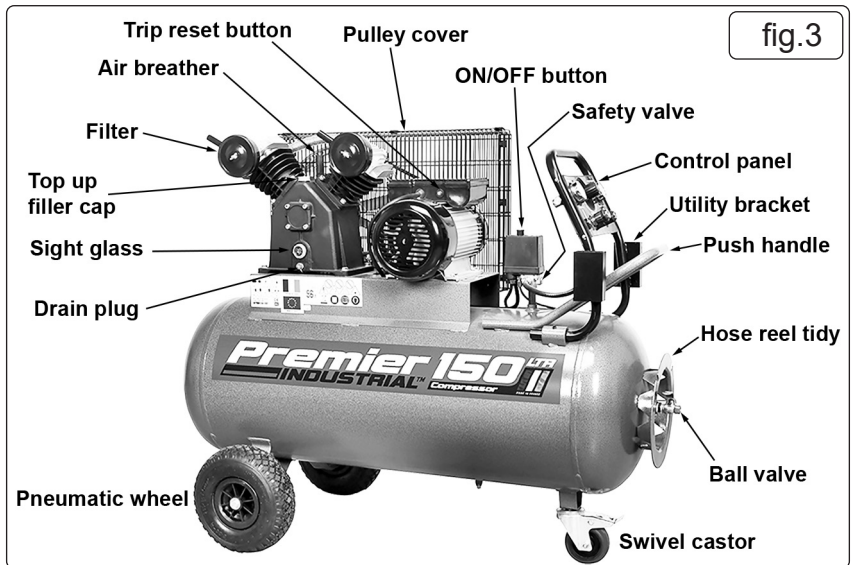
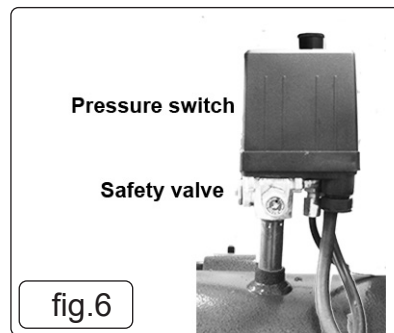

fig.3
fig.6
- 4.2.1. Screw the filter unit into the port openings in each head as shown in (fig 3).
- 5.4. Before using the compressor check the oil level by referring to the oil sight glass (fig 3). On a horizontal surface, if the oil level is not up to the red centre mark it should be further topped up with recommended oil, see section 6.7.
- 5.5. To top up undo filler cap (fig 3), top up oil level to required level, then replace filler cap.
- 5.7.1. Your compressor is fitted with a push/pull type ON/OFF button to turn the compressor "ON" pull the ON/OFF button upwards. To turn the compressor "OFF" push the ON/OFF button downwards (fig 3).
- 5.7.3. Plug mains lead into mains supply and start the compressor pulling the ON/OFF button (fig 3) upwards.
The pressure switch (fig 6) stops the motor when the maximum tank pressure is reached and restarts it when pressure falls below the minimum threshold approximately 2bar (29psi) less than the maximum pressure.
- 5.7.5. Stop the compressor by pushing the ON/OFF button (fig 3) downwards. The compressed air inside the compressor head will flow out via the air line tube situated beneath the switch housing. Restart is made easier and prevents the motor from being damaged. **DO NOT**, other than in an emergency, stop the compressor by switching off the mains power, or by pulling the plug out, as the pressure relief will not then occur and motor damage may result upon restart. When the compressor runs correctly and is stopped correctly there will be:
Should the pressure in the main tank exceed the pre-set maximum, the safety valve (fig 3) will activate.
- **WARNING!** For this reason **DO NOT** tamper with, or adjust, the pressure switch (fig 6) or safety valve (fig 3).
5.7.7. The compressor is fitted with a trip reset button, located on the side of the connection box on top of the motor (fig 3). Should the trip reset button activate, leave for 1 minute before pressing the button to reset.
Remove the filler cap (fig 3) then unscrew the drain plug (fig 3) and drain the oil into a suitable waste oil container.
| 4B) Motor stops and will not restart                   | Supply fuse has tripped  | Press trip reset button (fig 3 ) and restart unit. If repeated tripping occurs replace the check valve or contact authorised Service Agent   |